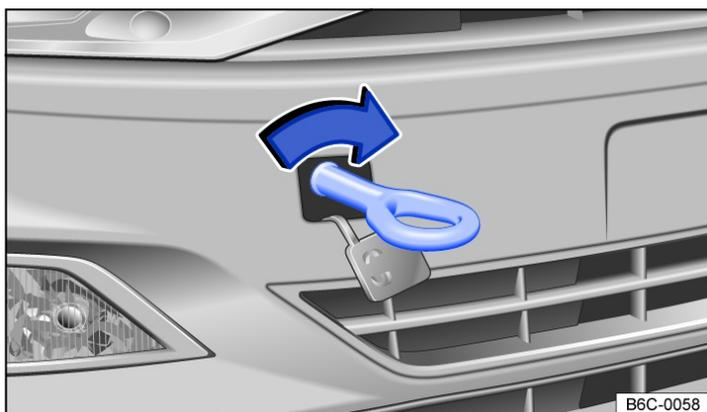

Fig. 2 In the front bumper on the right: screwing in the towing eye.
- Turn the towing eye clockwise into the mounting → Fig. 2 and tighten as far as it will go → . Use a suitable object to screw the towing eye fully and securely into the mounting.